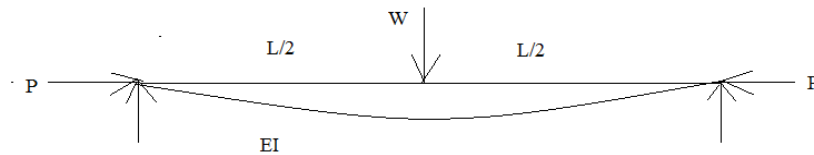

Figure: 1
5. Find the Maximum bending moment in a strut subjected point load W at mid point and axial thrust P shown in Figure 1. [10]